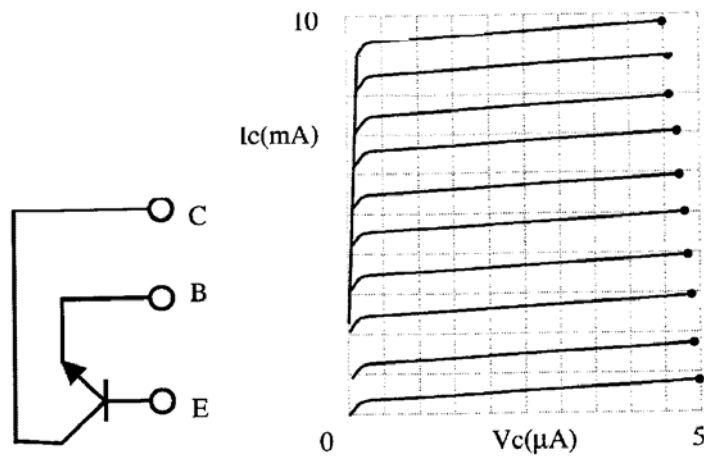

Fig. 3-6
3.2.6 Common base output feature of NPN 9013 transistor (see Fig. 3-6)